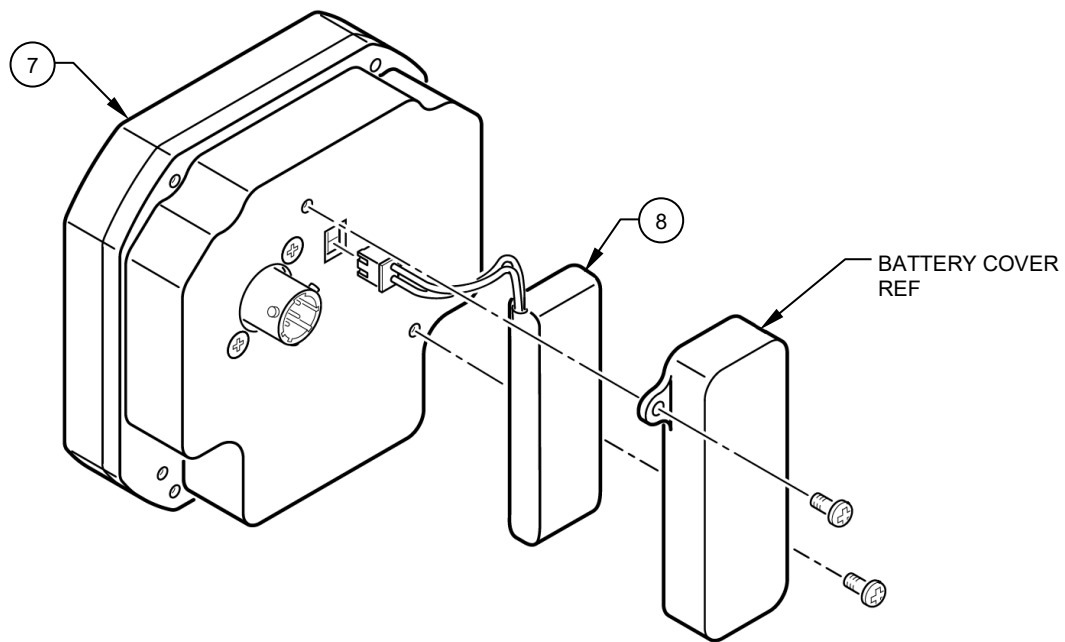

Figure 7
2. Remove the two screws common to the battery cover and remove the cover. Reference Figure 7.
3. Disconnect the Battery, Assy plug (Item 8) from the back of the Attitude Indicator (Item 7) and discard battery. Reference Figure 7.
4. Connect a new Battery, Assy and re-install the battery cover. Reference Figure 7.